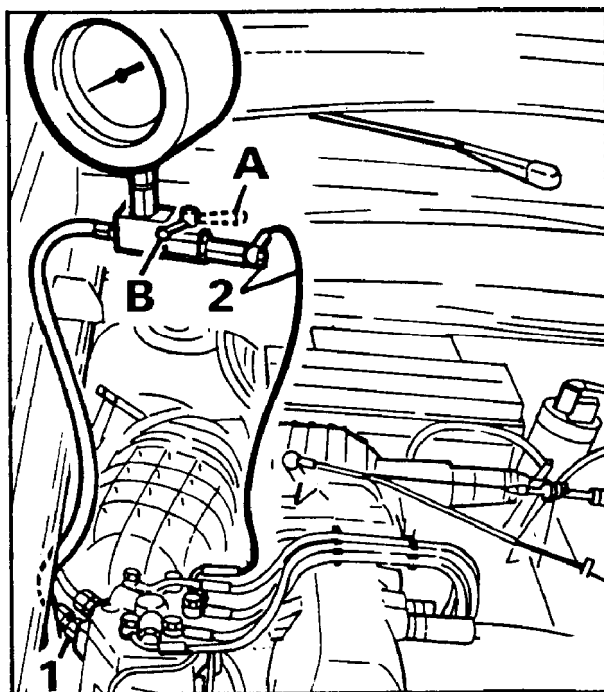

Fig. 3: Checking Fuel System Pressure
1) Using new sealing washers and line adapter (VW 1318/5), connect pressure gauge (VW 1318) between fuel cold start valve and lower chamber connection of fuel distributor. Gauge lever positions: A - open, B - closed. See Fig. 3.